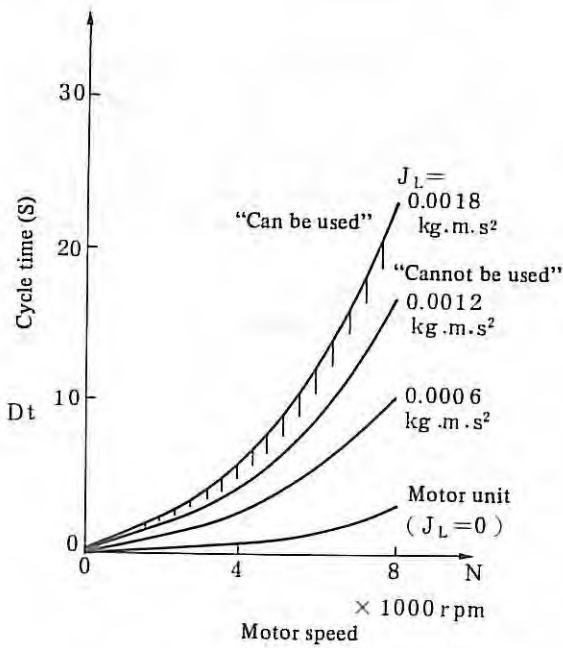

Fig. 1 Model 1S
The results of the calculation in the case of the resistor unit (1) regarding each motor model are shown in the figures 1 - 4 in the following page.
- 2) In the case of resistor unit (2), the cycle time of figures 1 - 4 is 1/2.
- 3) In the case of resistor unit (3), the cycle time of figures 1 - 4 is 1/4.